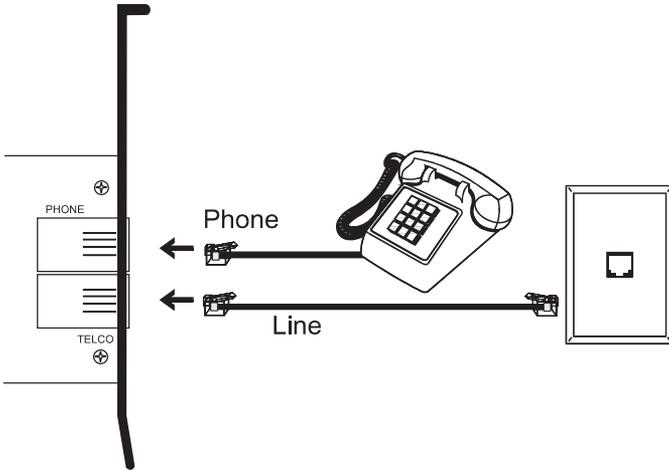

Fig.7: Connecting Devices
8. Connect the telephone line cable to the “Line (Telco)” jack as shown in Figure 7.